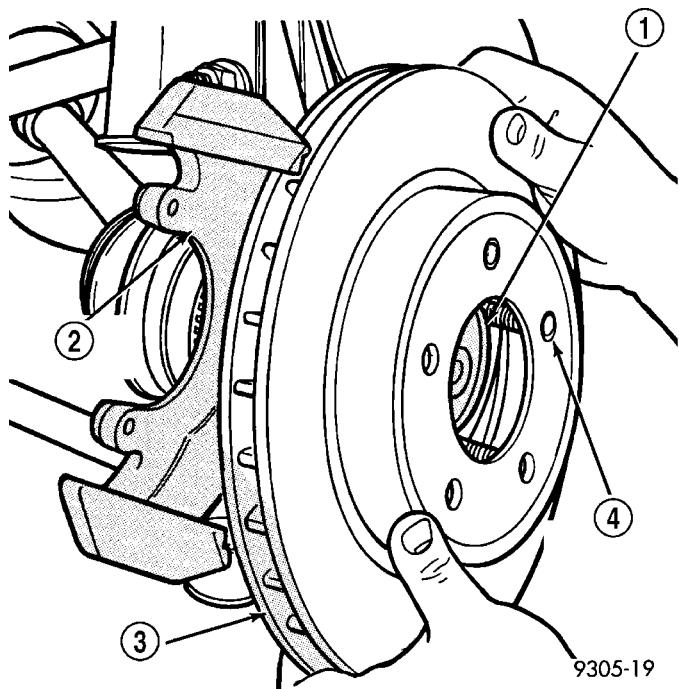

Fig. 17 Installing Brake Rotor
(9) Install speed sensor cable routing bracket on front strut assembly. Install and securely tighten routing bracket screw.
(10) Install the braking disk on the hub and bearing assembly (Fig. 17).